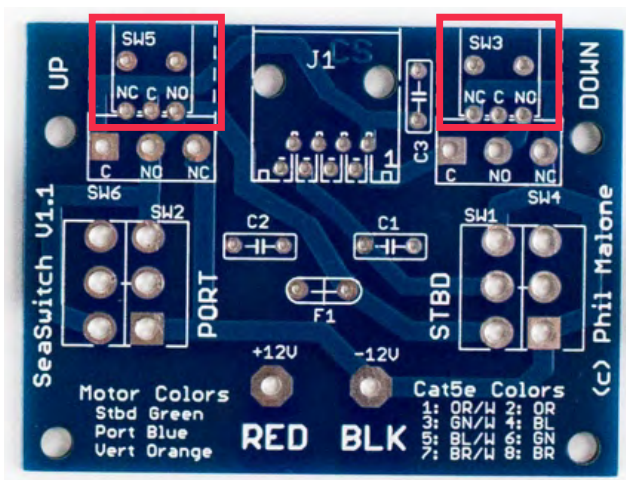

Figure 11
- Place the switches in the SW3 and SW5 locations on the component side of the PCB.. (Figure 11 & 12)